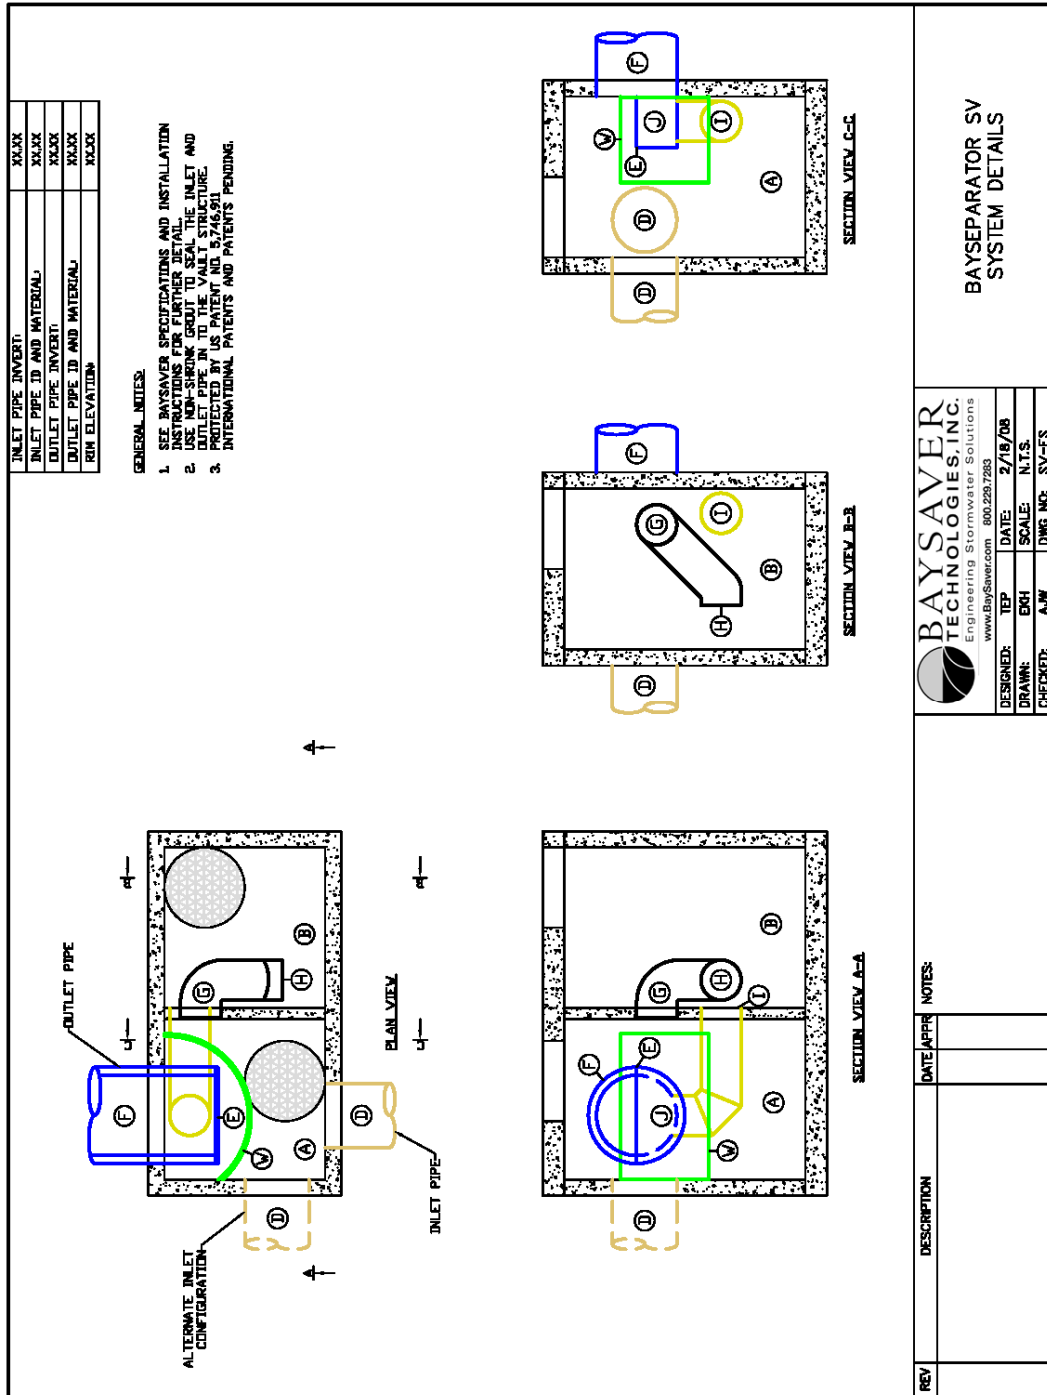

Figure 2.5: BaySeparator SV
During low flow conditions, influent water enters the BaySeparator™ SV through the Inlet pipe (labeled D in Figure 2.5). It flows directly into the primary chamber (A), causing the water level in that chamber to rise. When the water level in the primary chamber rises, water is skimmed from the surface of that chamber by a pipe (G) that penetrates the wall between the two chambers. This pipe delivers that water to the storage chamber (B), where it enters horizontally below the water surface through a 90 degree fitting (H). When the water enters the storage chamber, the entrained sediments, floatables (oils, trash, debris) separate from the water stream – sediments settle to the structure floor and floatables rise to the water surface. The additional water in the storage chamber displaces clean water from the center of the column, which enters the return pipe (I) and flows to the system outlet assembly (J). From here, the treated water leaves the BaySeparator™ system.